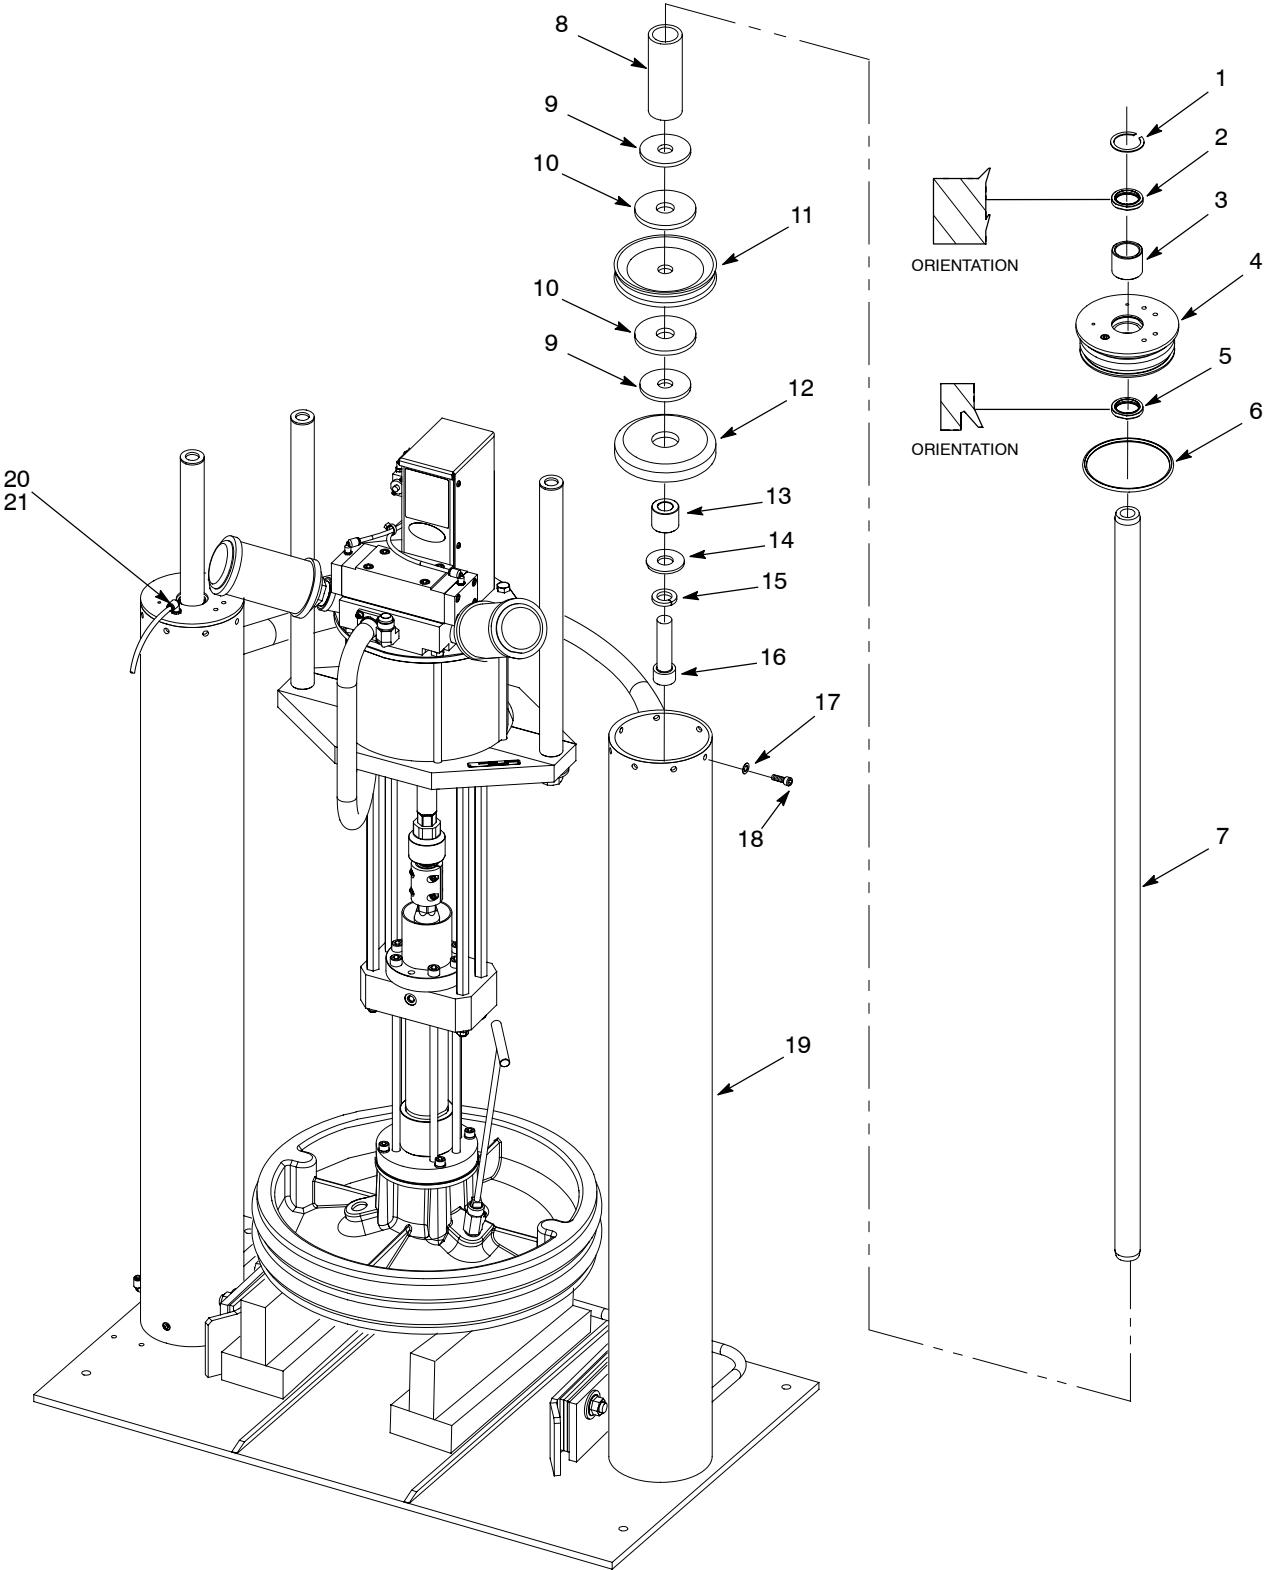

Figure 3 Rebuilding the Large Frame Cylinders
1. See Figure 3. Remove the following from each cylinder shaft (7):
- shaft screw (16)
- lock washers (15)
- flat washers (14)
- bottom piston spacer (13)
- piston guide disk (12)
- piston back-up plates (9)
- gaskets (10)
- piston seal (11)
- piston stop (8)
2. Remove the cylinder head (4) from each cylinder shaft (7).
1. See Figure 3. Clean the inside walls of the air cylinders (19). Immediately apply a coating of O-ring lubricant to prevent corrosion.
2. Clean the cylinder heads (4), and cylinder shafts (7).
3. Replace the seals (5 and 11), wiper scrapers (2), bearings (3), O-rings (6), and gaskets (10).
1. See Figure 3. Lubricate the following new items with petroleum jelly and install them into each cylinder head (4):
- shaft seal (5)
- bearing (3)
- wiper scraper (2)